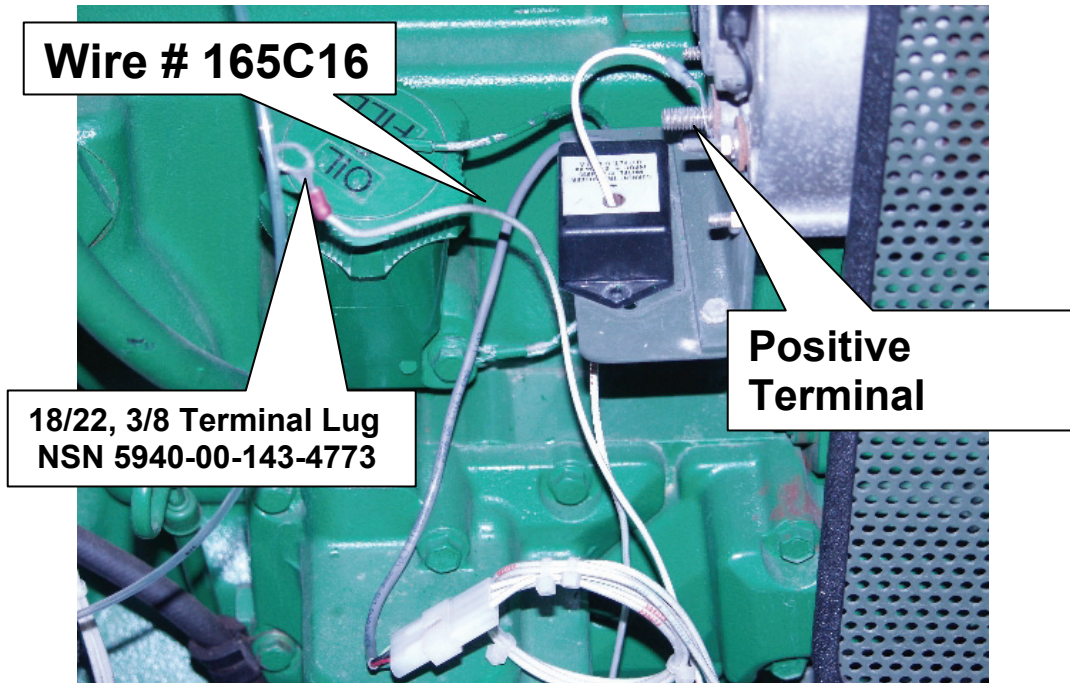

Figure 4 Terminal Lug
4. Measure and cut wire # 165C16 with enough slack to reach the positive terminal of the battery charging alternator as shown in figure 4. Add a new lug terminal, 18-22 gauge, 3/8 stud size (NSN 5940-00-143-4773, pkg of 100), to the end of the wire # 165C16.